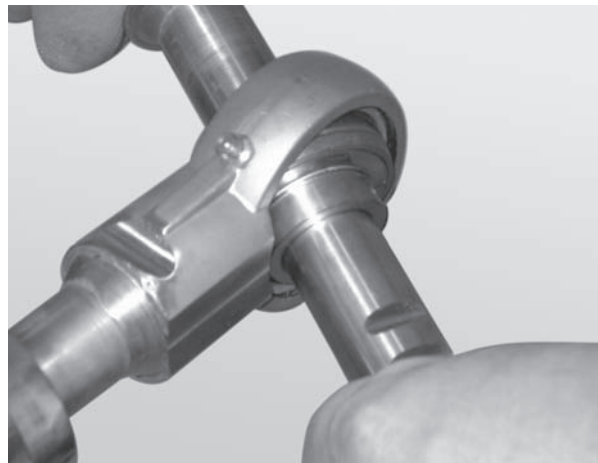

Figure 89
3. Insert the rod end of another bearing shaft through the bearing orifice (**Figure 89**).